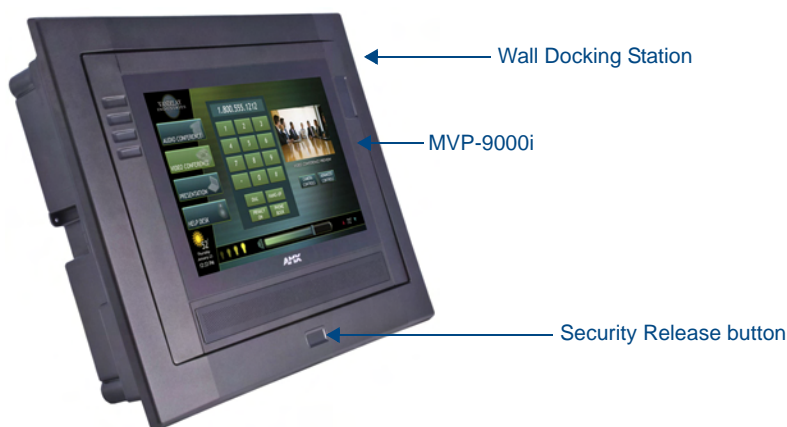

FIG. 9 MVP-WDS-9-GB Wall Docking Station - Side view
1. Press the **Security Release** button (see FIG. 9).